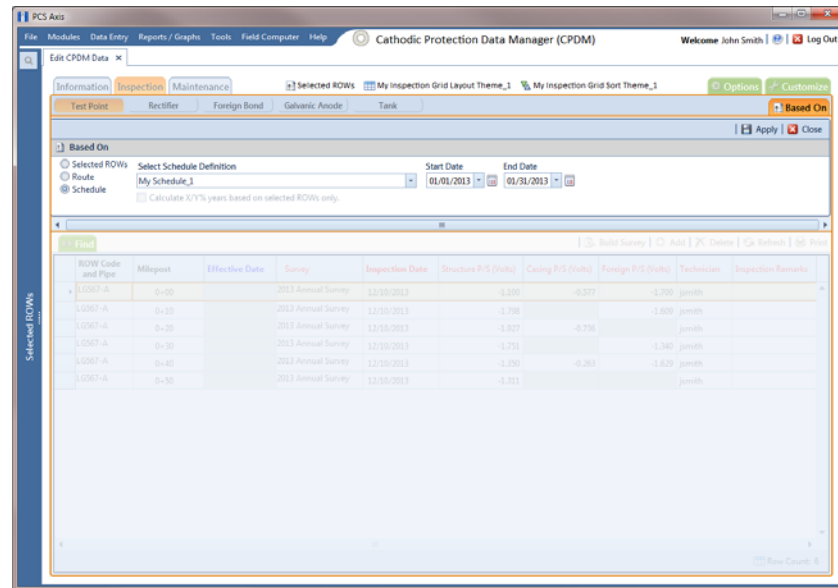

Figure 6-29. Based On Schedule
- 5 Click the **Based On** tab **Based On** and then select **Schedule** (Figure 6-29, page 191).